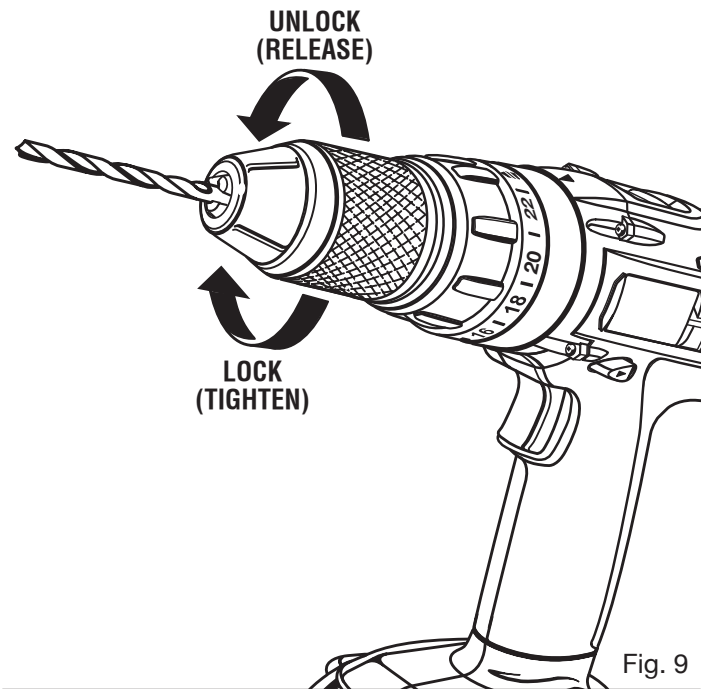

Fig. 9
- Insert drill bit straight into chuck the full length of the jaws as shown in figure 9. The drill bit must be inserted past the first set of carbide inserts, to a depth of 7/8 in.
See Figure 9.